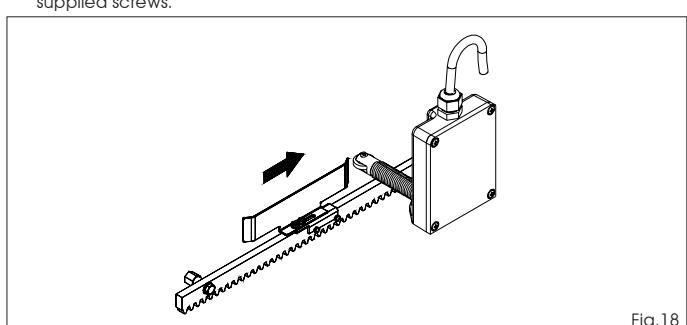

Fig.18
- 5) Allow the plate to slide over the rack in opening direction (Fig.18). As soon as the opening limit switch LED on the control board goes off, take the plate forward by about 20±30 mm and secure it provisionally on the rack, using the supplied screws.